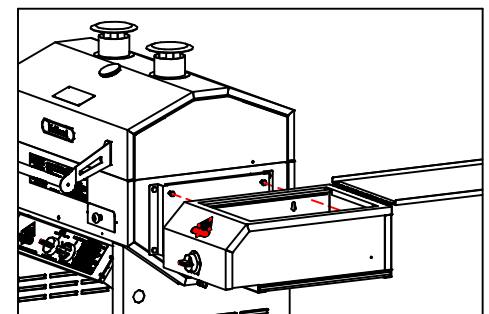

Figure 3
Step 4. Hang searing unit onto the 1/4-20 bolts by inserting the head of the bolts through the large end of the keyhole slots as shown in Figure 3. Allow the unit to rest on the bolts. Do not tighten at this time.